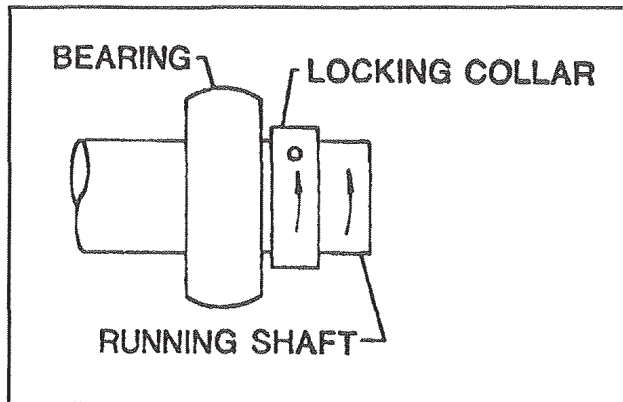

Figure 41. Locking Collar
2. Remove bearing locking collar (see Figure 41).